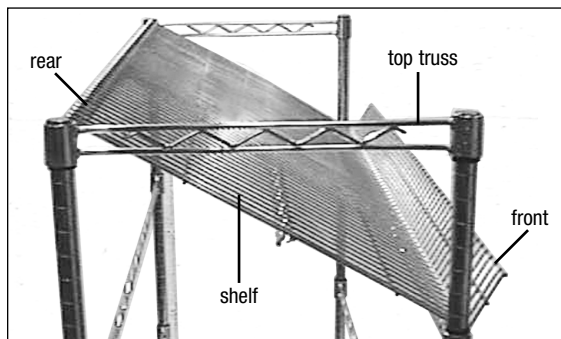

figure 5
- Rest front of shelf on front of bottom truss. Shelf should be approximately at a 30° angle, as shown in *figure 5*.
Note: Downturn of topmost shelf should hook over top truss, as shown in figure 5.